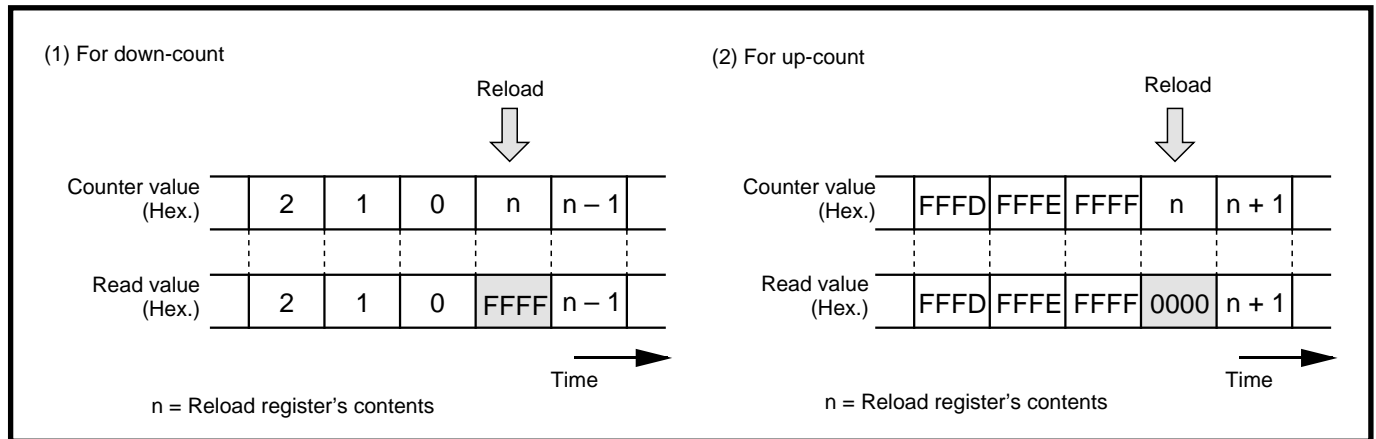

Fig. 5.4.9 Reading timer Ai register
1. By reading the timer Ai register, the counter value can be read out at any timing while counting is in progress. However, when the timer Ai register is read at the reload timing shown in Figure 5.4.9, a value “FFFF₁₆” (at the underflow) or “0000₁₆” (at the overflow) is read out. When reading the timer Ai register after setting a value to the register while counting is not in progress and before the counter starts counting, the set value is read out correctly.